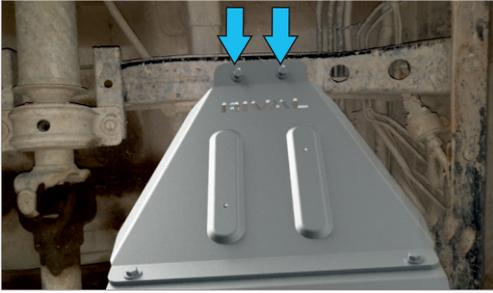

Fig. 12
12. Attach front part of Gas Tank skid plate p.2 using Bolts M10x25 (pos.C) and Flat washers 10mm (pos.E) (Fig.12).